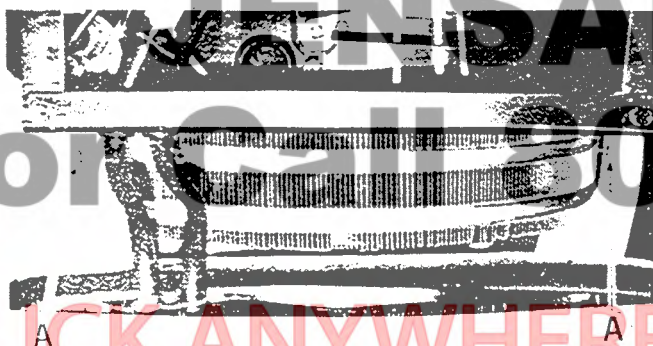

Figure 9 Transmission oil cooler as seen from above the tractor.
2. See figure 9. Remove the screws (A) at each end of the transmission oil cooler and raise the left end of it to expose the main drive belt tension adjustment.